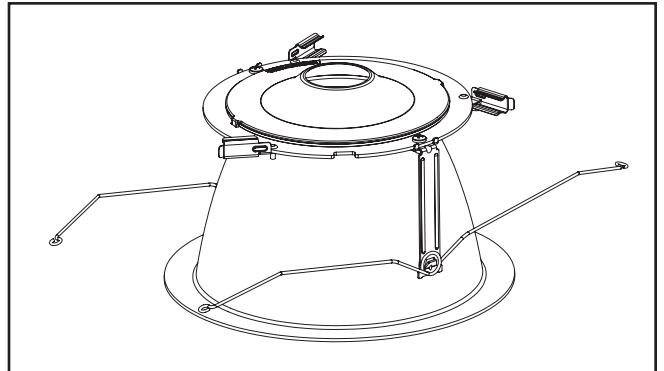

Figure 6
1. Remove lower trim from protective packaging. Rotate side clips (3) outwards. (Figure 6) Remove LED Engine from protective packaging.